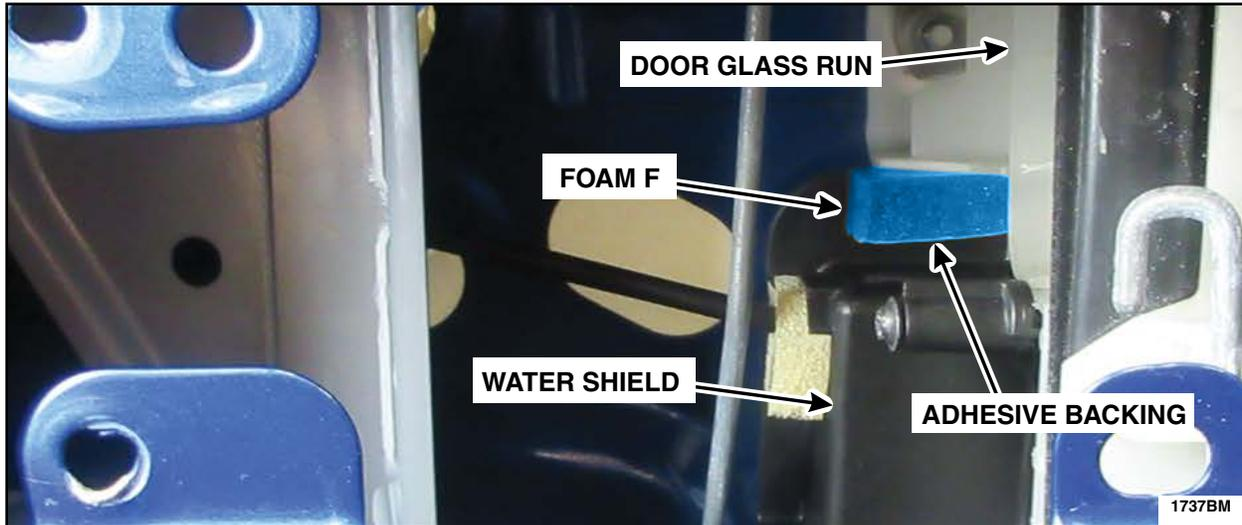

FIGURE 37
5. Using a trim tool, install Foam F between the water shield and the door glass run. See Figure 37.